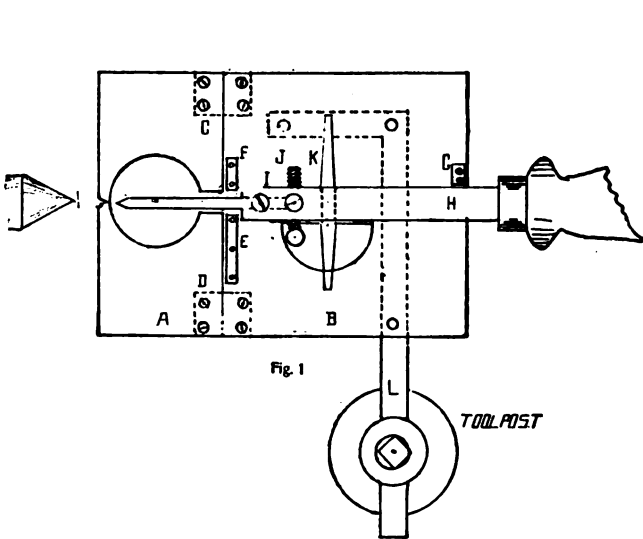

Fig. 1
help to hold the ball firmly in position. Now the tool rest (Fig. 1) is clamped in the tool post by an L-shaped piece of stock (L), riveted to the bottom, just high enough to allow the tool, when resting on the support, to come to the center line of the ball. The tool rest is made of two pieces of sheet metal, A and B, which are hinged together on the line CD, allowing A, which is only used as a gauge for setting the tool to be folded down. E, F, and G are guides for the tool holder, the former two also serving as stops. The tool holder, H, is made of $\frac{3}{8}$ in. square stock, having a $\frac{1}{4}$ in. hole in the end to insert the tools, which are held by means of a set-screw, I. Back of this is the guide screw, J, a piece of 3-16 in. stock is fastened to the end just long enough to reach down into the semi-circular aperture cut into B. K is a crosspiece fastened to the bottom of H to insure a wide bearing on the tool rest. To adjust the tool rest in position we measure the distance between the aperture cut in A and the line C-D, say $\frac{1}{4}$ in. in this
holder in such manner that when the tool-holder is up against the stops E-F-G the point of the drill will be 1-16 in. away from the edge of the hole (Fig. 1). Turning the gauge plate down the carriage is again moved up to the stop and locked there, the ball having been previously centered, we now take the first cut with the tool up to the stop. The chips may be removed by blowing into the hole with a blowpipe. Back up the carriage again and turn up the gauge plate and insert the second tool and turn the guide screw J to such position that both cutting edges of the tool will be 1-16 in. away from the edge of the hole in the gauge at either end. Once more the gauge is folded down, the carriage moved up to the stop and we take the second cut. In each of the subsequent cuts another tool must be inserted, shaped to fit that part of the circle to be cut away, and the guide screw J must be adjusted to the length of the cut.—Contributed by Wm. Lachmich, Chicago.